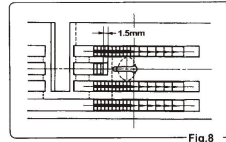

Fig. 8
(4) Feed Mechanism
a) Ensure that the feed dog does not touch the throat plate as it passes through. A clearance of 1.5mm should be seen between the middle teeth of the front feed dog and the throat plate as indicated (Fig. 8).